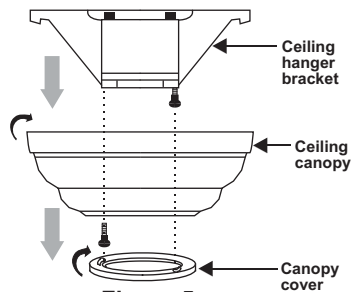

Figure 5
Step 1. Remove the decorative canopy bottom cover from the canopy by turning the cover counter clockwise. (Fig. 5)
Step 2. Remove the hanger bracket from the canopy by removing the 1 of 2 screws from the bottom of the hanger bracket and loosening the other one a half turn from the screw head. Next, turn the canopy counter clockwise to removing the hanger bracket from the canopy. (Figure 5)